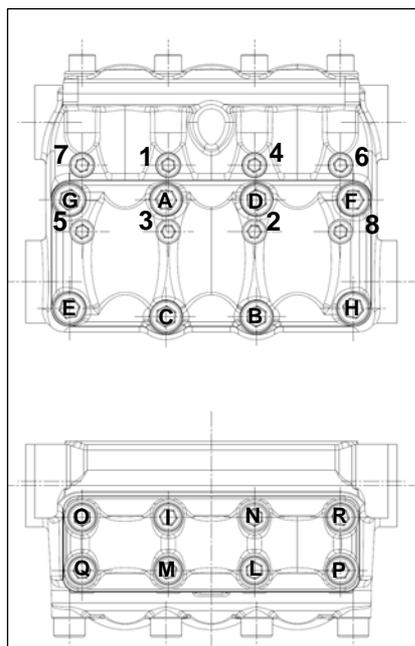

Fig. 31
\* \* \* The valve cover fixing screws explod. pos. 45 and pos. 58 must be tightened with a torque wrench, respecting the tightening torque contained in the diagram in fig.31.